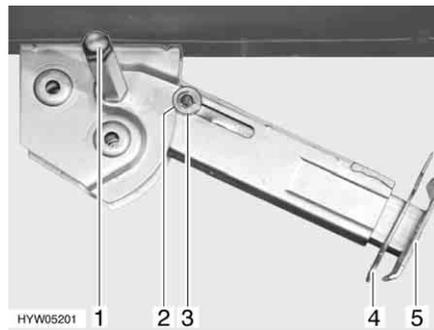

Fig. 51 Steady leg
- Place the socket spanner on the hexagon nut (Fig. 51,1) and rotate until the steady leg is in a perpendicular downward position.
- Remove the splint (Fig. 51,4) out of the support foot extension (Fig. 51,5).
- Place the socket spanner on the hexagon nut (Fig. 51,1) and rotate until the steady leg is clear of the ground.
- Push in the support foot extension (Fig. 51,5) and insert the splint (Fig. 51,4) in the drilled hole in the support foot extension.
- Rotate the hexagonal nut (Fig. 51,1) with the socket spanner until the steady leg has swung upwards and the guide disc (Fig. 51,3) has completely retracted into the notch (Fig. 51,2).